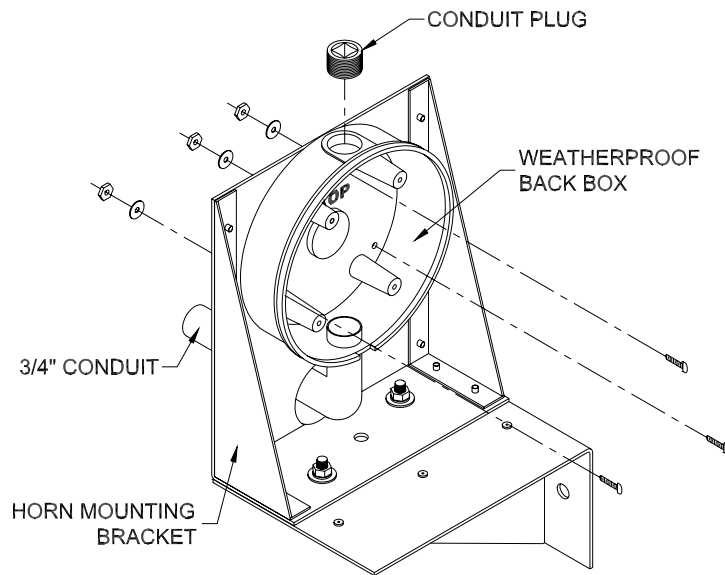

Figure 9 Back Box Mounting Points
- Attach the weatherproof back box to the mounting bracket using the provided 8-32 x 1/2" Phillips head machine screws, #8 split-lock washers, and 8-32 hex nuts as shown in figure 9.